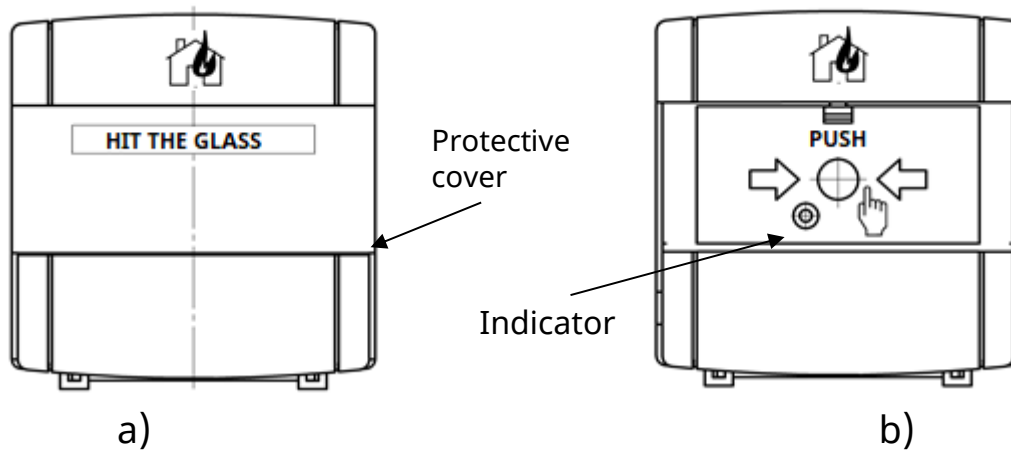

Figure 2 - The AMCP appearance
4.3 LED indicators are used to indicate the operation modes and AMCP status, combined with one light guide mounted in the cover (Fig. 2):